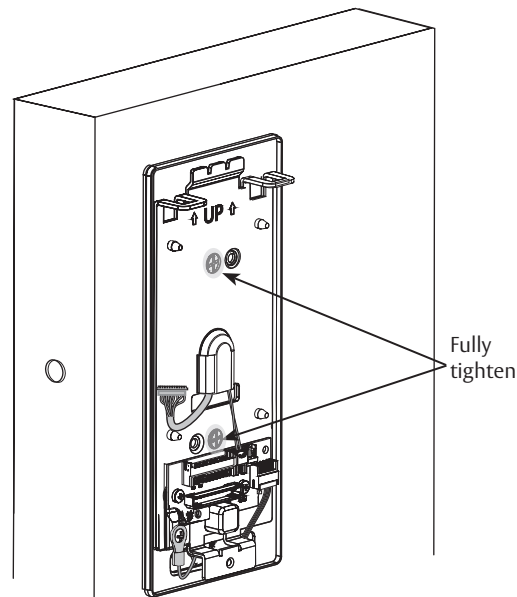

Fig. 23
- j. Secure mounting assembly while ensuring proper alignment of outside reader and tighten two (2) through-bolts on inside of door to secure reader. (Fig. 23)